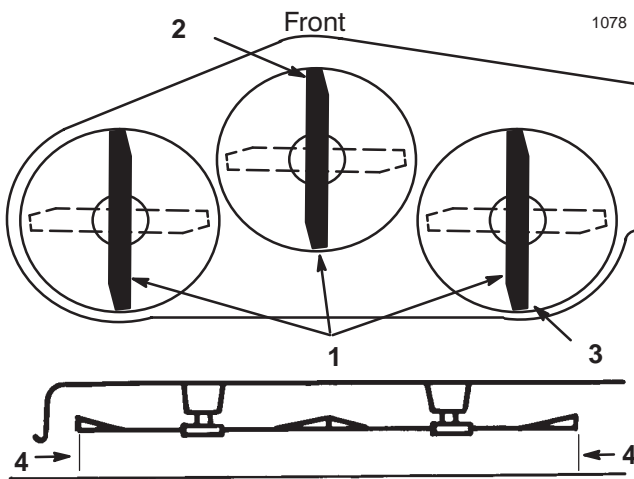
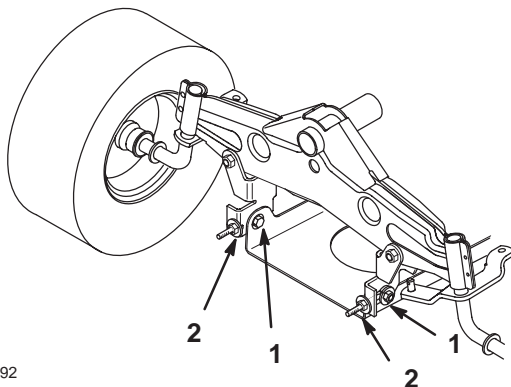

Figure 14
Figure 15
- Move the height-of-cut lever into the "C" notch and carefully rotate the blades so that they are facing front to rear (Fig. 14).
- Measure between the tip of the front blade (Fig. 14) and the tip of the rear blade to the flat surface. If the front blade tip is not 0– $\frac{5}{16}$ in. (0–8 mm) lower than the rear blade tip, adjust the front mower mounting plate at the axle (Fig. 15).
6. To adjust the front-to-rear blade slope, loosen the front pivot plate mounting bolts slightly (Fig. 15).
7. Rotate the locknuts on the eyebolts to change the adjustment (Fig. 15). To raise the front of the mower, tighten the eyebolt locknuts. To lower the front of the mower, loosen the eyebolt locknuts.
8. After adjusting both eyebolt locknuts evenly, check the front-to-rear slope again. Continue adjusting the eyebolts until the front blade tip is 0-5/16 in. (0-8 mm) lower than the rear blade tip (Fig. 15).
9. When the front-to-rear slope is correct, tighten the pivot plate mounting bolts (Fig. 15).